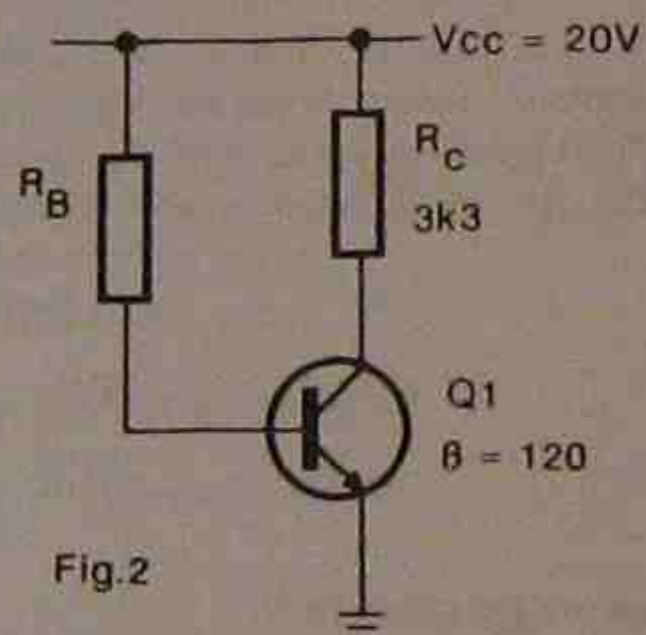

Fig.2
2. For the circuit of Fig.2, determine the value for R_B required to give a value of collector voltage equal to half the supply voltage.